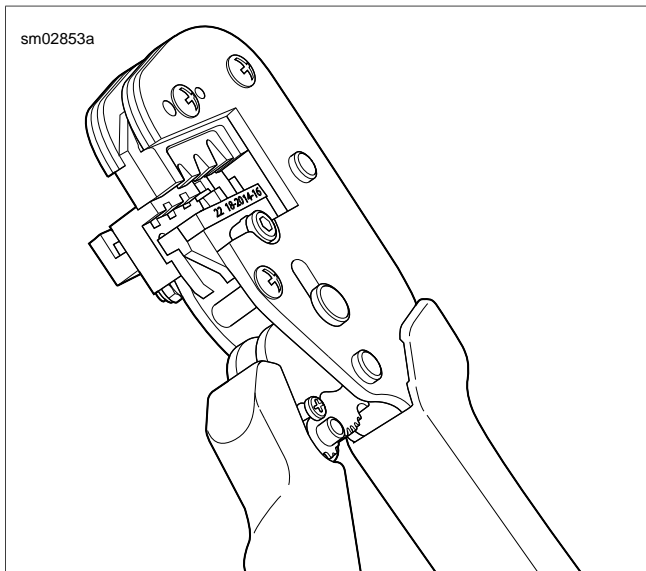

Figure A-51. Open Terminal Crimper (HD-48119) at 45 Degrees
3. See Figure A-51. Hold fully open tool at approximately 45 degrees.